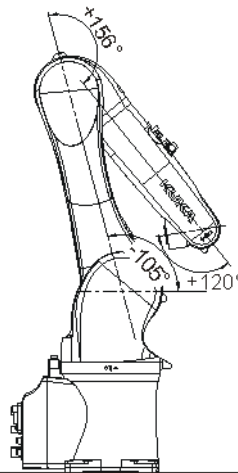

Fig. 11-1: Transport position
3. Put the robot into operation and move it into the transport position (>>> Fig. 11-1).